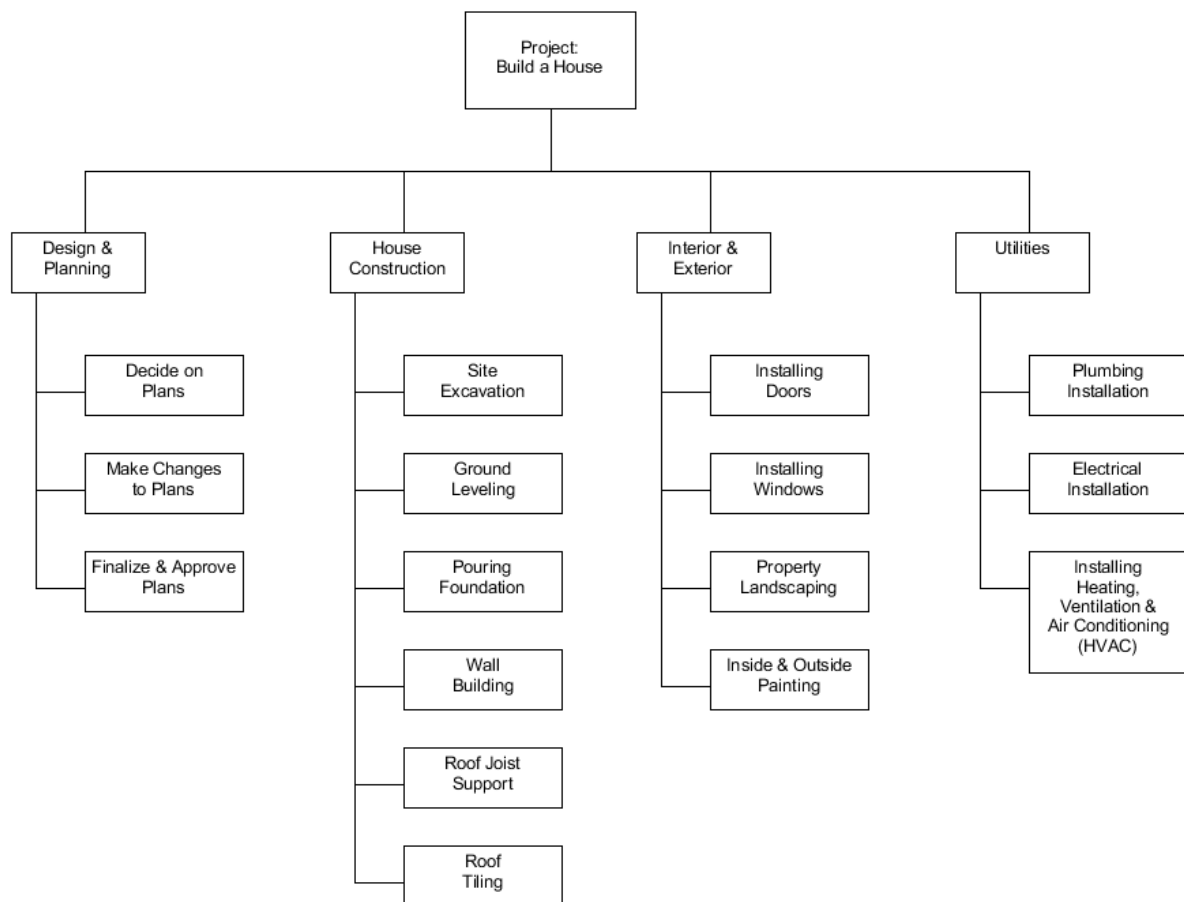
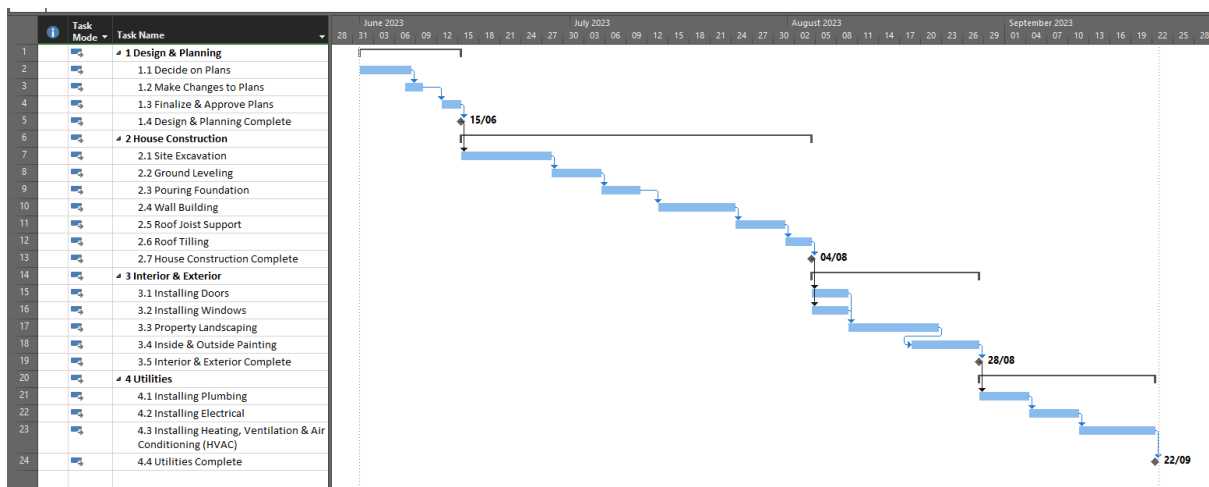
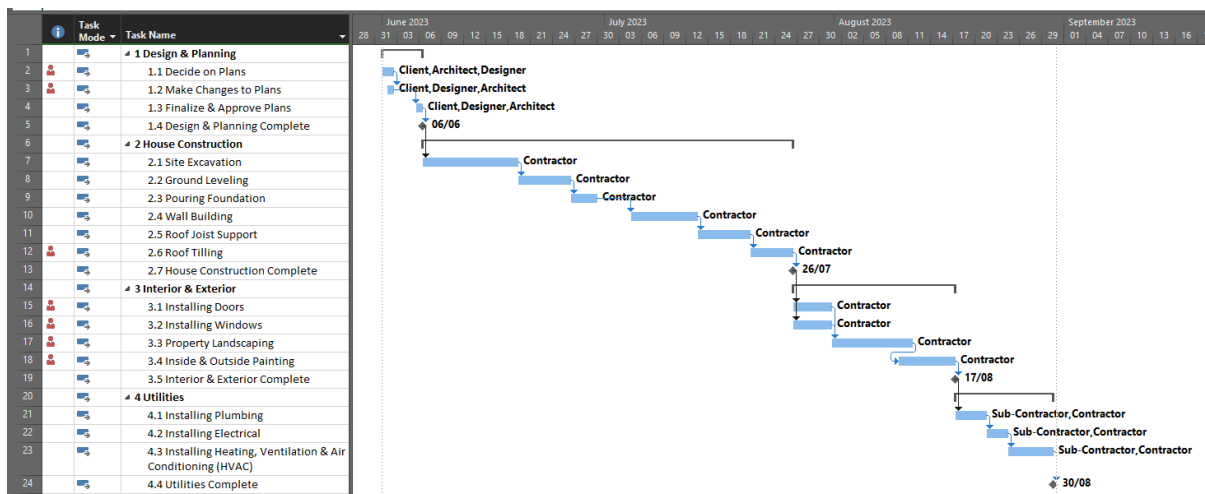

Figure 1: The work breakdown structure for building a house.
Figure 2: Basic Gantt Chart for building a house.
Figure 3: Gantt Chart for building a house with Conflicting Resources.
The WBS is split into 4 categories: **(1) Design & Planning**, **(2) House Construction**, **(3) Interior & Exterior** and **(4) Utilities**. These steps are based upon a more recent SDLC that keeps the client actively involved during the project. An overview of the project can be seen in Figure 1.
The Gantt Chart shown in Figure 2 and Figure 3 is an implementation of the WBS shown in Figure 1. The chart includes **lag time**, for example 1.3. Another objective included is **lead time** between 1.2 and 1.3, 2.5 and 2.6, 3.3 and 3.4. **Parallel tasks** are also used as seen between 3.1 and 3.2. The **summary tasks** are clearly visible, relating to the WBS categories described earlier. Every phase end with a **milestone** that has a date next to it, as seen below. To further explain parallel tasks, lead and lag time, a more in-depth description will be given below: